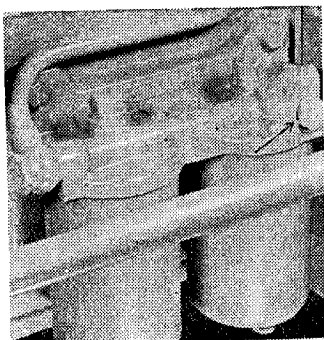

Fig. 43
2. Dismount and repair the reduction valve of the lubrication circuit (Fig. 43); unscrew the reduction valve by means of wrench "22" and wash it in Diesel oil.